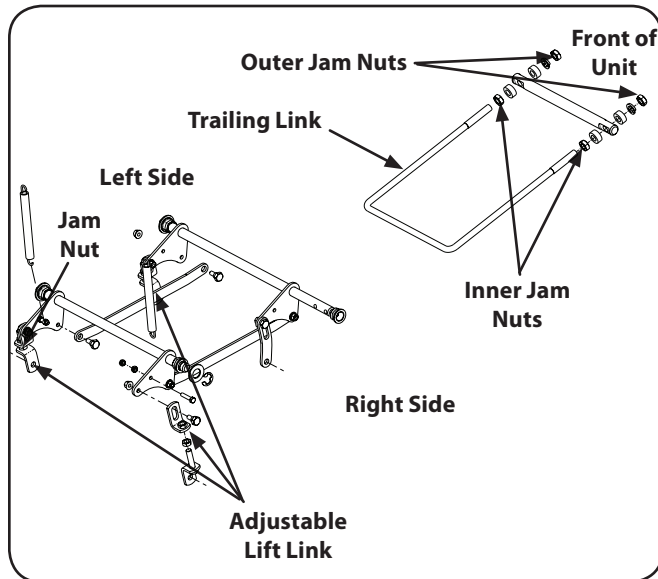

Figure 1-6
- With a $\frac{3}{4}$ " wrench loosen the lower jam nut of the left side of the lift link. To adjust the side of the deck up or down turn the upper jam nut clockwise (to raise) or counter clockwise (to lower) a few turns. See Figure 1-6.
- The final adjustment would be to set the Trailing Link by adjusting the jam nuts on the threaded link. Loosen the jam nuts and tighten the inner nut to achieve the correct length and belt tension. See Figure 1-6.
To tighten or loosen the tension on the belt, tighten or loosen the jam nuts on the U-rod, see Figure 1-6, until a ten-pound pull with a spring scale deflects the belt about $\frac{1}{2}$ ".